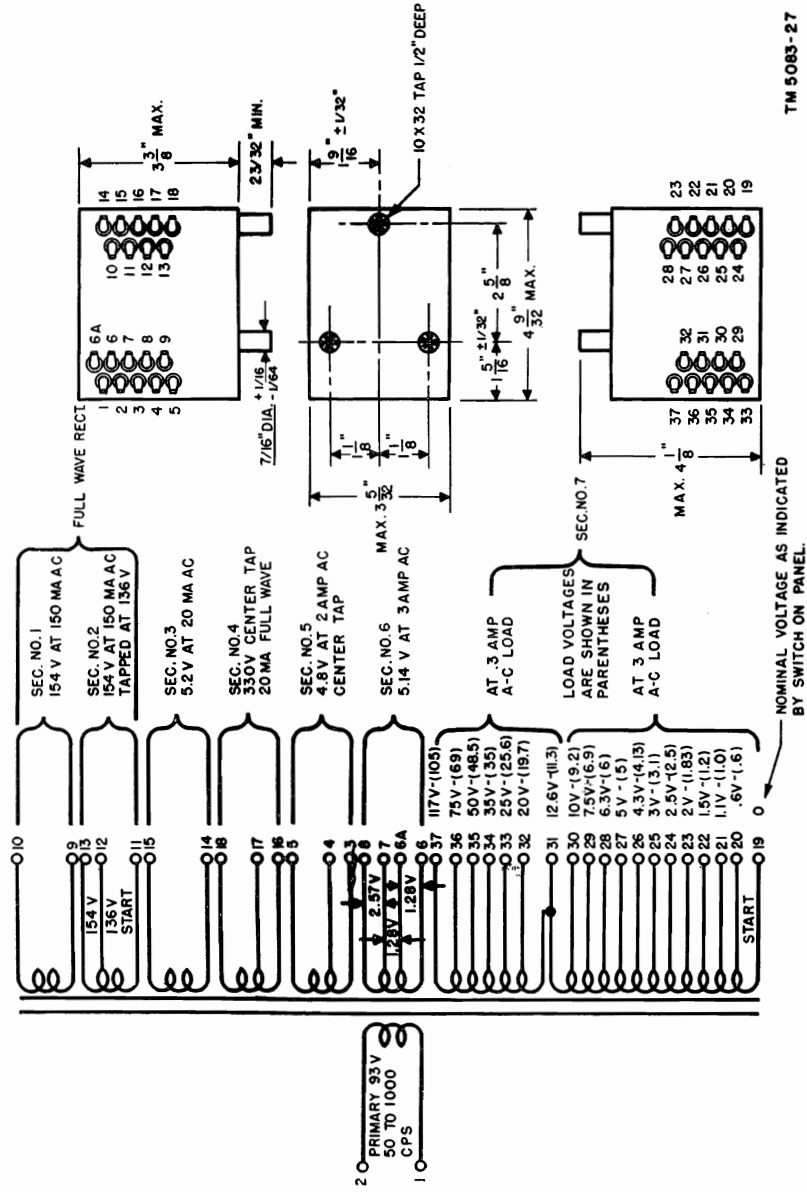

Figure 25. Transformer diagram.
- (8) Tighten the clamp screws and recheck the voltages.
b. If dual potentiometer (SHUNT control) R127 (fig. 25) is replaced, proceed with the voltage calibration as follows:
- (1) Set the FUNCTION SWITCH at A.
- (2) Adjust the line voltage with the LINE ADJUST control knob until the meter pointer indicates LINE TEST (par. 21).
- (3) Set the SHUNT control at 73.
- (4) Connect a 10K resistor between contacts 3 and 6 of the OCTAL socket.
- (5) Depress and hold the 3—MUT. COND. button.
- (6) Turn the movable cap that covers the casing of the dual potentiometer until the TV-7/U meter shows zero deflection. One of the two windings of the dual potentiometer is mounted in the cap.
- (7) Maintain the position of the cap by soldering it to the casing.
- (8) Recheck the voltmeter indication.